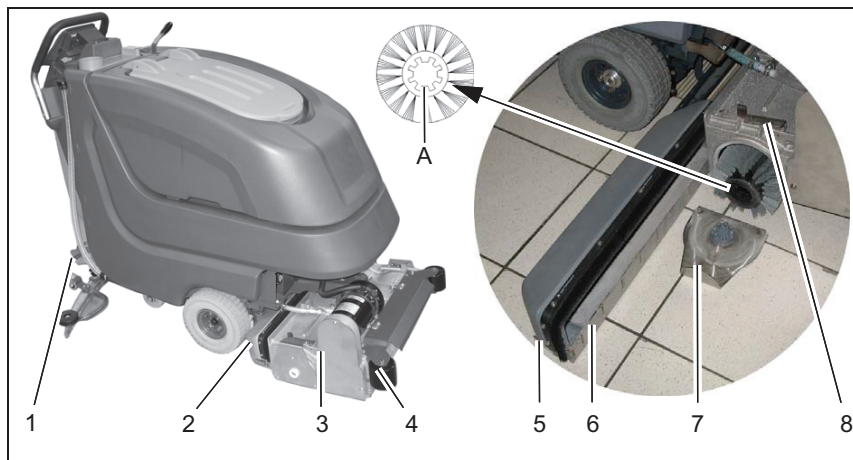

Fig.11
Clean dirt hopper (Fig. 11/2) at daily intervals or as required.
Use quick-release (Fig. 11/5) to loosen feed inlet (Fig. 11/6) and clean dirt hopper.
1. Lift-out cylindrical broom head (Fig. 11/3) by pedal (Fig. 11/1).
2. Release brush seating (Fig. 11/7) by locking lever (Fig. 11/8).
Check deflector rollers (Fig. 11/4) at weekly intervals and replace if required.